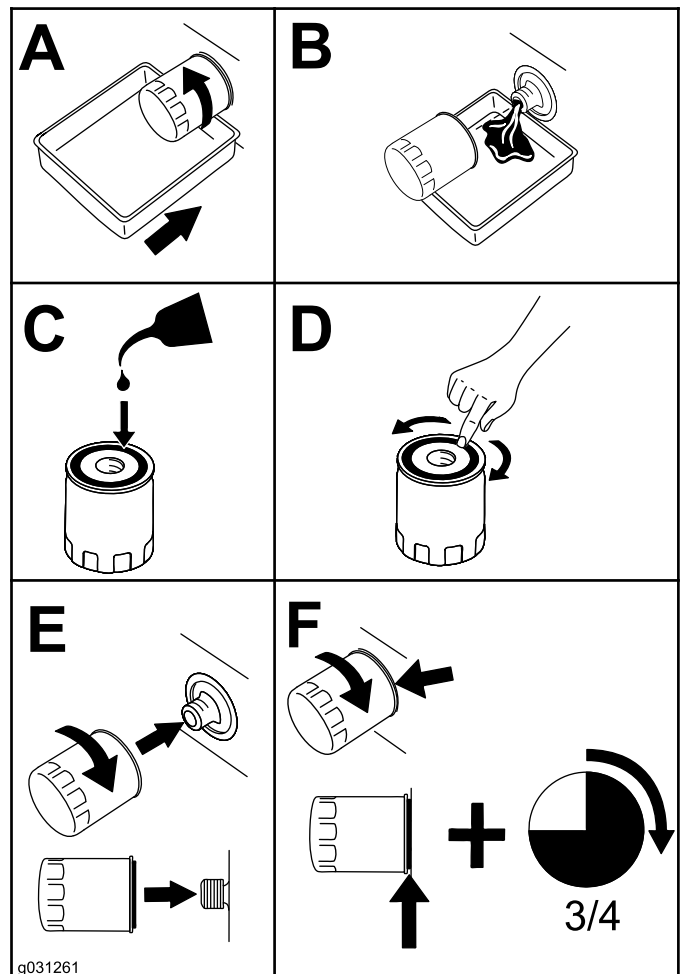

Figure 50
4. Change the engine-oil filter as shown in Figure 50.